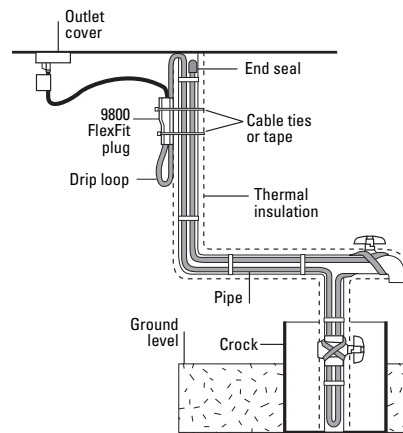

Figure 6. Multiple run installation.
- If you have excess heating cable at the end of your pipe, double it back along the pipe where the insulation will completely cover it as shown in Figure 6. Using 9610 application tape or equivalent, tape the end seal to the pipe as shown in Figures 1, 2, and 6.
**Important:** In a crock or standpipe, run the Frostex heating cable down and back up the pipe (as shown in Figure 6), so that the **end seal is well above the ground level and will not be sitting in water.**